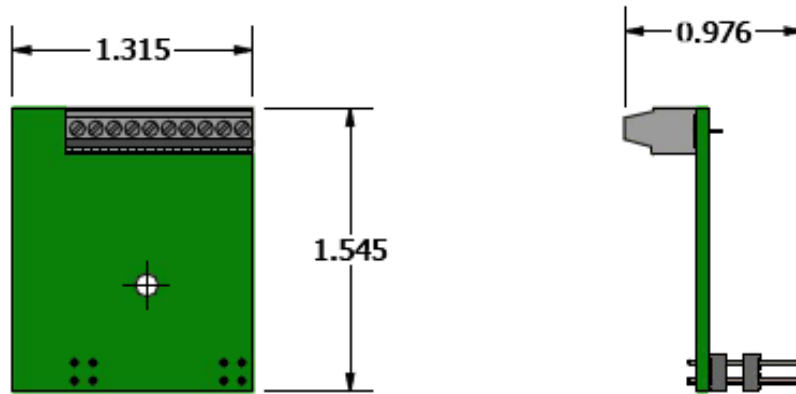

Figure 1. SESP1040-541-LT-AC with Digital I/O Module
7. Carefully insert the Digital Input/Output Module into the switch board (see Figure 1 and Figure 2 below). Do not push too hard or you may damage the switch board. If necessary squeeze the end of the Standoff with a pliers again.